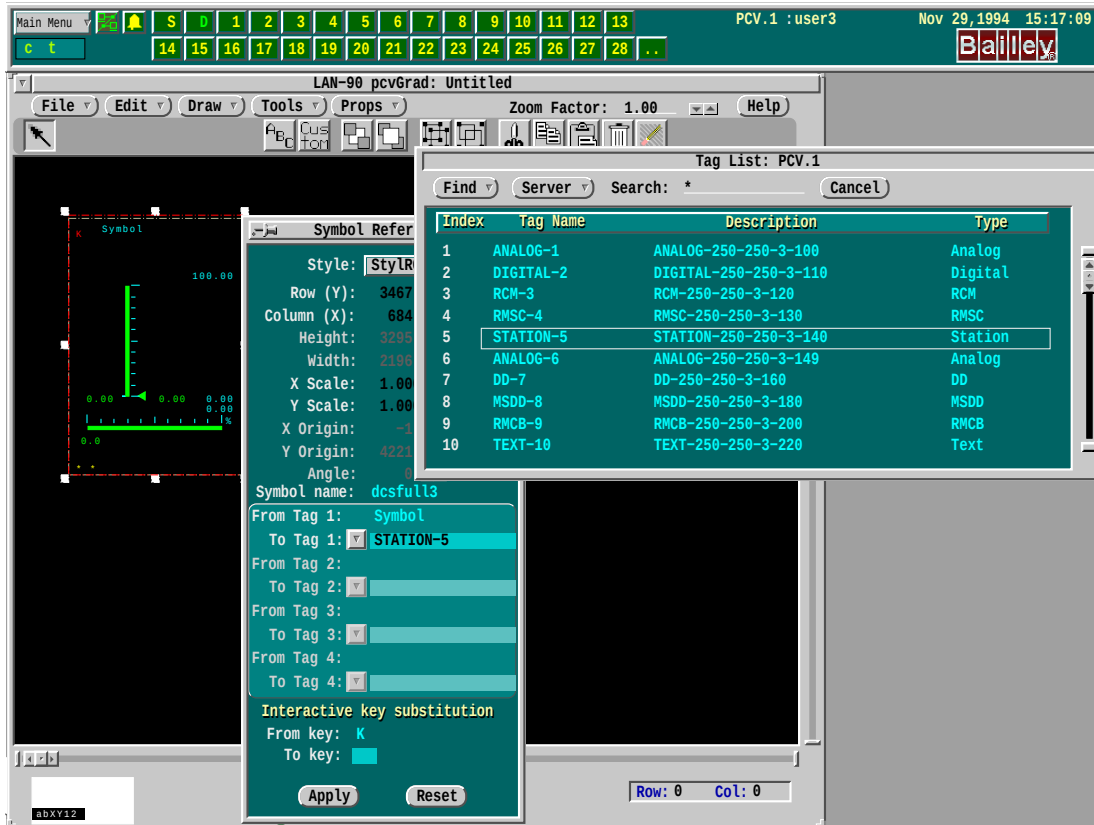

Figure 6-5. Select Tag From the Tag List
- In the middle of the properties dialog find “To Tag 1:” Click on the button beside “To Tag 1:”. This calls a Tag List (Figure 6-5). Select the Target Station. This tag name will automatically be entered into the field.